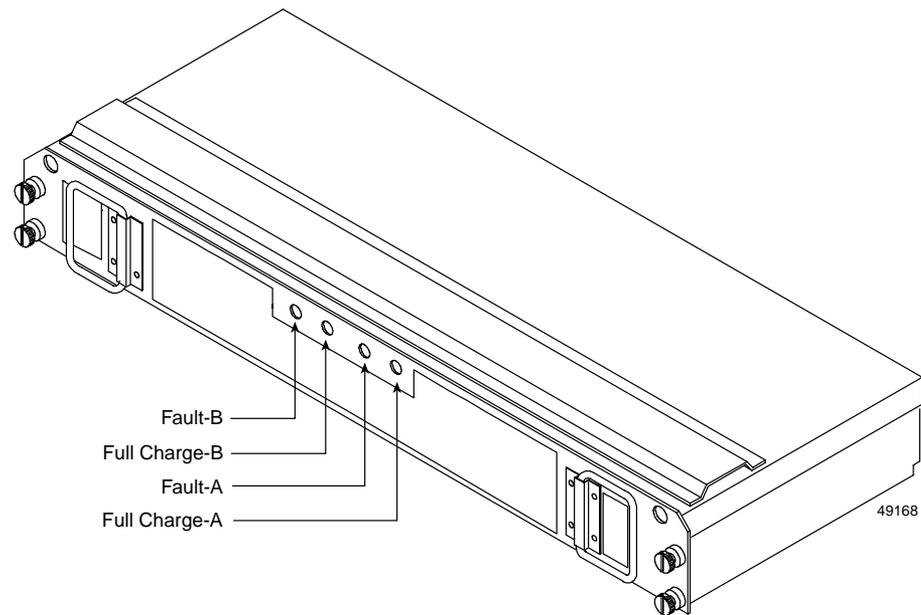

Figure 4-6 Battery Canister Indicators
8. Check the battery canister indicators (Figure 4-6). When properly charged, both Full Charge indicators on the front of the battery canister will glow steadily.